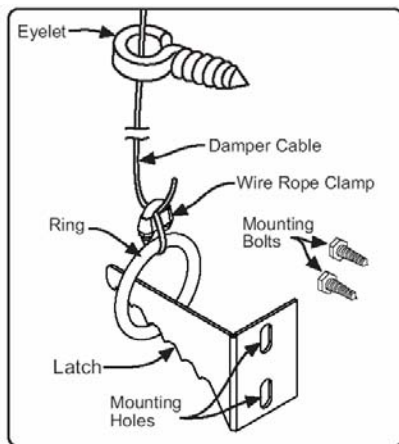

Figure 2.
3. Position latch on the firebox wall so that it is aligned with the eyelet. Use mounting holes in latch as a template to drill two 3/16" pilot holes into the firebox wall. Secure latch to firebox wall by threading the supplied mounting bolts through the pilot holes. Use Wire Rope Clamp to attach Ring to Damper Cable. Adjust damper cable length so that when Ring is on the latch, the damper is in the closed position. See Figures 2 & 3.